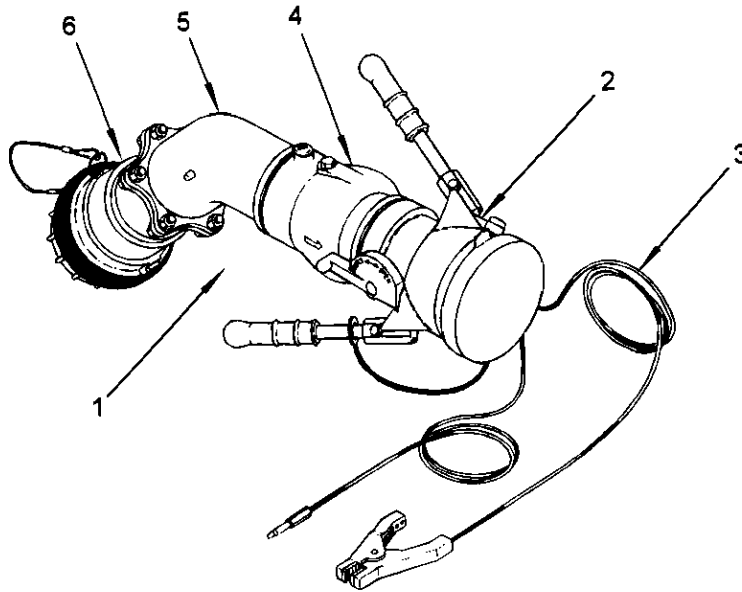

Figure 1-7. D-1 Nozzle Assembly
The D-1 nozzle assembly (1), figure 1-7, is a four part assembly: D-1 nozzle (2) with a ground cable assembly (3), 45 psi regulator (4), 45 degree inlet (5), and a two-inch, non-valved unisex coupling (6). All the component parts rotate around the inlet/outlet for easier connection to the aircraft receiver and fuel hose. For a detailed description refer to TM 10-4930-246-13&P.